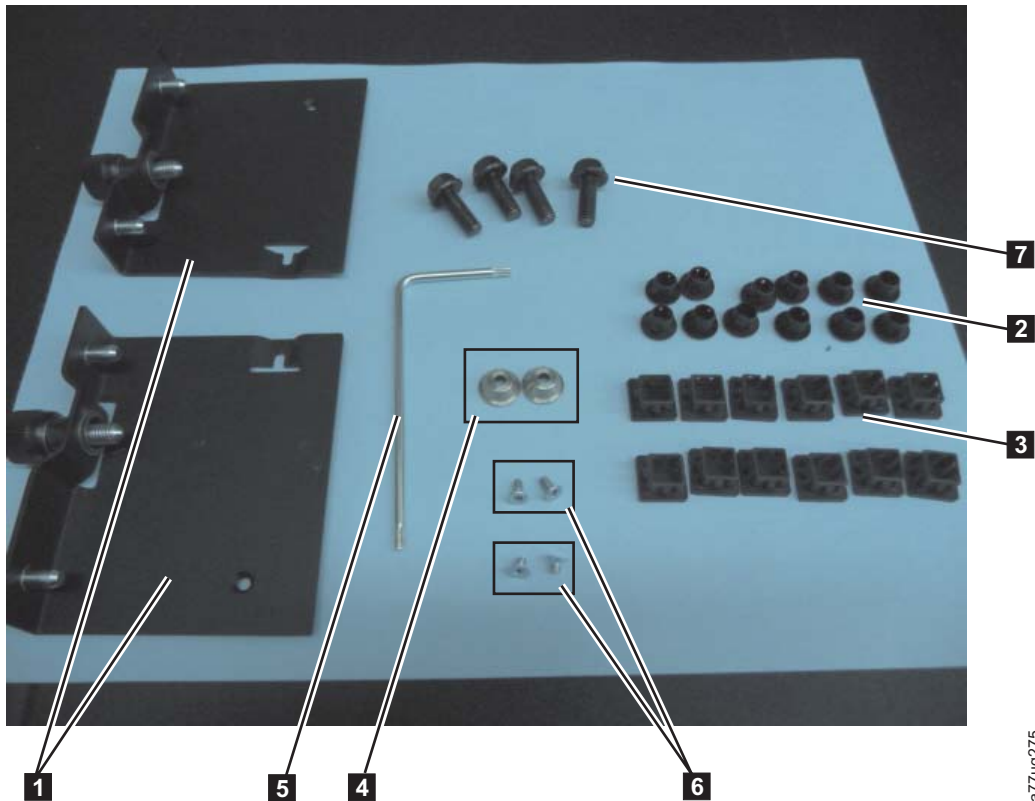

Figure 4-4. Rack Kit A mounting hardware
1. Verify which rack kit was included in your shipment. Although there are two different rack kits, the steps to install them are the same. After verifying which Rack Kit you received, see Figure 4-4 on page 4-7 for the installation steps.